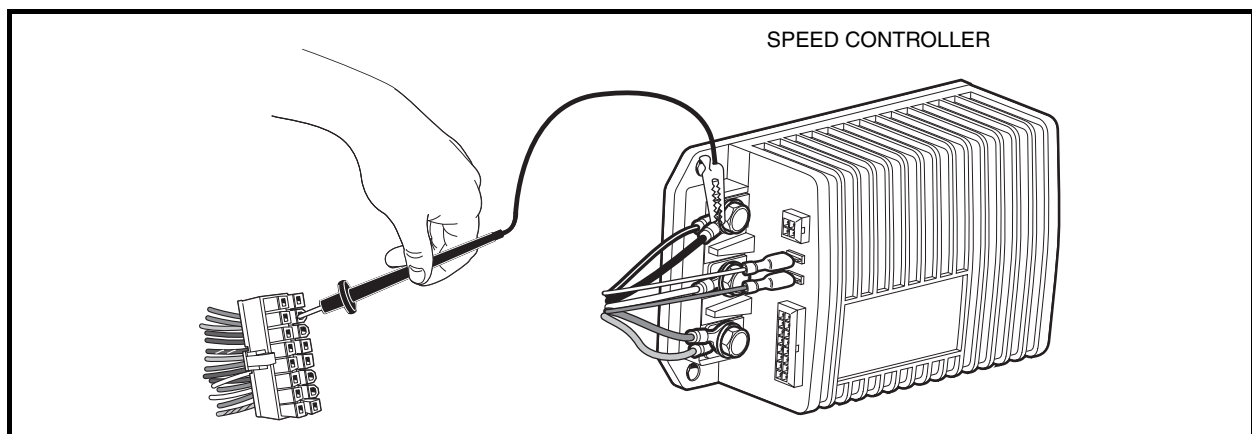

Figure 11-17 Pin 7 Test
- Place a jumper wire with an alligator clip between the B– terminal of the speed controller (use alligator clip for this connection) and pin 7 (orange/white wire) of the 16-pin connector (**Figure 11-17, Page 11-30**). See following **CAUTION**.